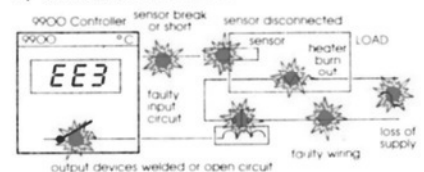

Fig. 3 Typical faults detected by LBA
7.3 LBA – Loop break alarm **see Fig. 3**